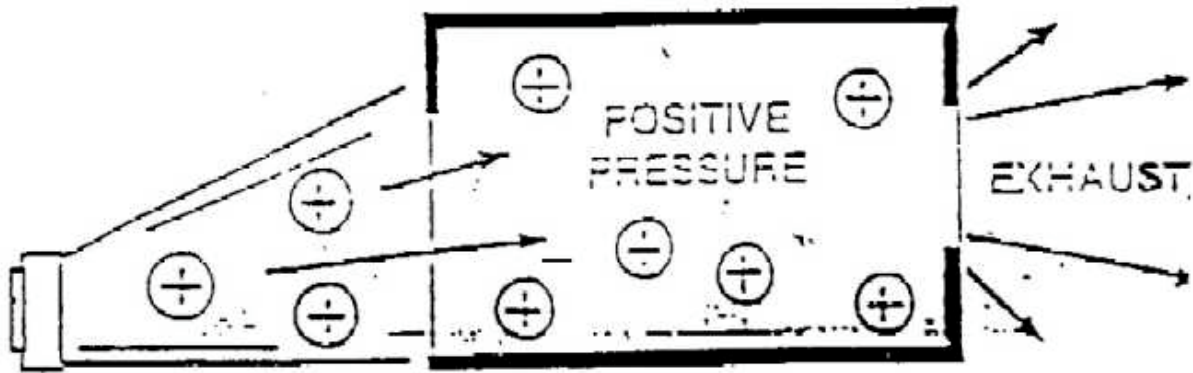

FIGURE 2
2. Have a single discharge opening to the outside, either a door, window or a forced opening, on the opposite side of the structure to create a "single" pathway of air flow from one end of the structure to the opposite end following the natural flow of air, if possible. (See Figure 2.)